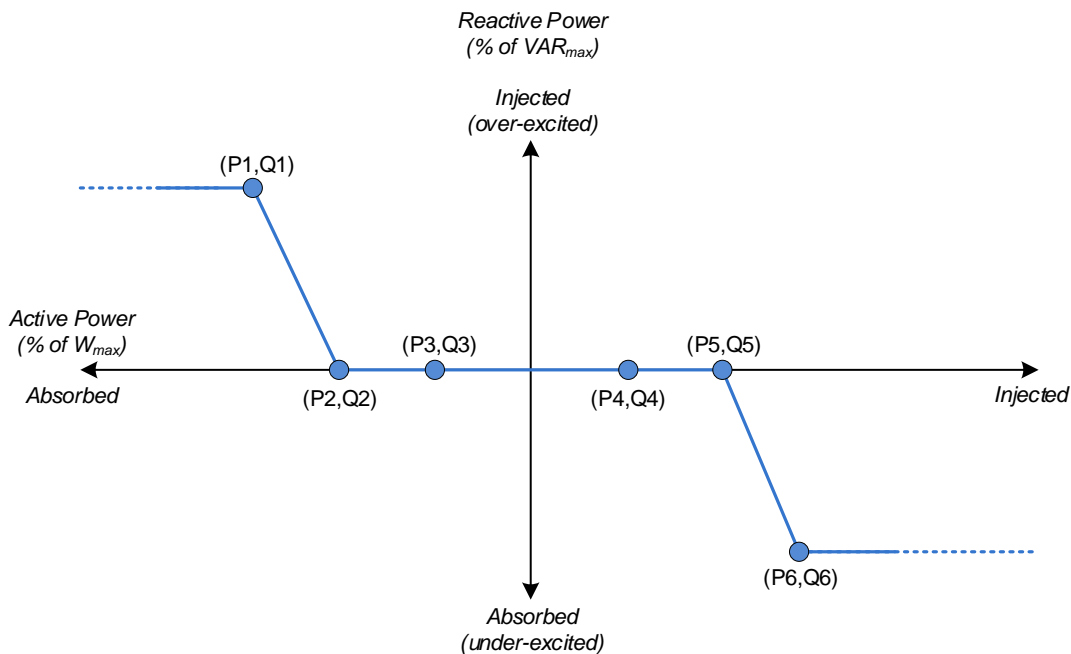

Figure 26 - Watt/VAR Configuration
Figure 26 illustrates a basic Watt-VAR curve. At the endpoints, to the left of the first active power point and to the right of the last active power point, the reactive power level remains constant (i.e. flat lines). The active power points (P) are defined as a percentage of the maximum active power (W_{max} , **REG 40266**). By default, the reactive power points (Q) are defined as a percentage of the maximum reactive power (VAR_{max} , **REG 40272**). However, the scaling can be changed to be a percentage of the maximum active power (W_{max} , **REG 40266**) or the maximum apparent power (VA_{max} , **REG 40271**) using the *VAR Dependent Reference* register in the Watt-VAR curve settings. When the Watt-VAR curve is enabled (**REG 41630**), the PCS’s active power output is used to determine the reactive power output specified by this curve.